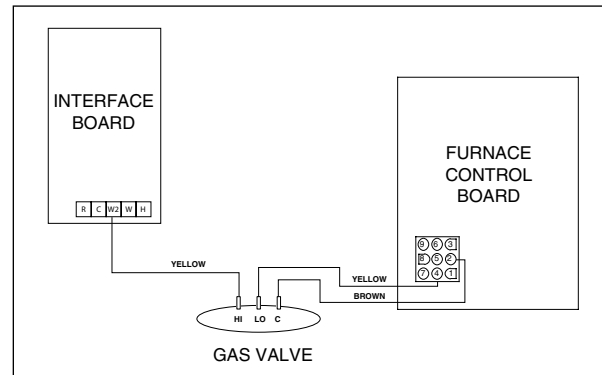

Figure 1. Wiring for furnaces with 2-stage gas valve.
## Conversion of 2-Stage Upflow Furnaces with Factory Installed Variable Speed Blower (See Figures 1 & 3)
8. Connect the yellow wire from the W2 terminal of the auxiliary board in the IQ Drive blower kit to the high side terminal of the gas valve. (See Figure 1)